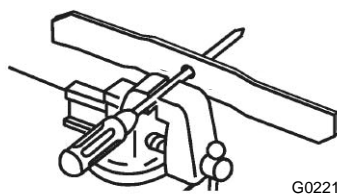

FIGURE 21
8. Check the balance of the blade by placing the center hole of the blade over a nail or screwdriver shank clamped horizontally in a vise (Fig. 21). If either end of the blade rotates downward, file that end (not the cutting edge). The blade is properly balanced when neither end drops.